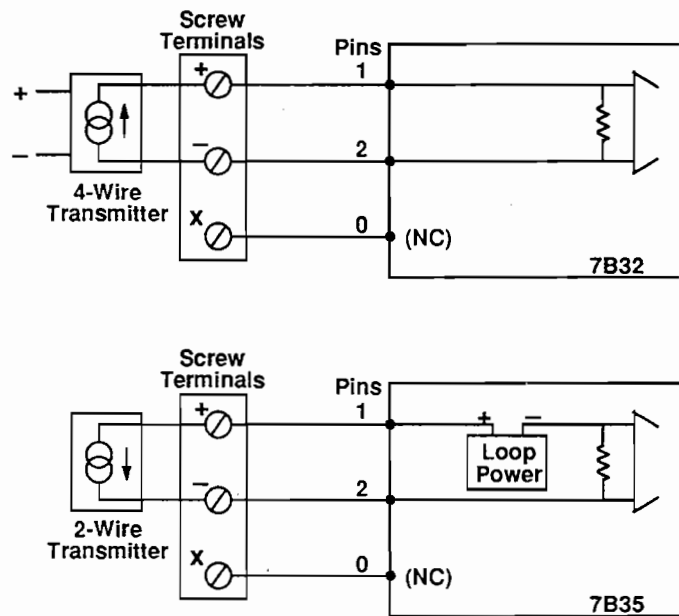

Figure 2-10. Process Current Input
- **Process Current Input** - Examples of wiring process current input signals to 7B32 and 7B35 modules are shown in Figure 2-10.